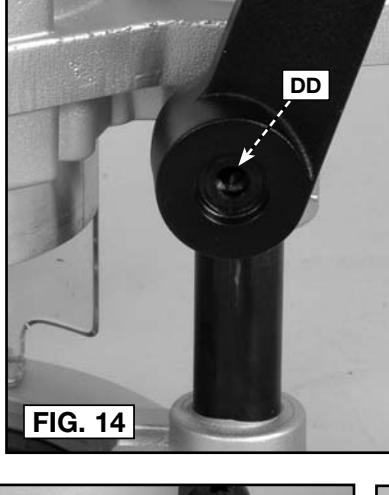

FIG. 14
2. Use an 1/8" hex wrench (not furnished) to turn the adjustment screw (DD) Fig. 14 counter-clockwise approximately 1/2 turn.